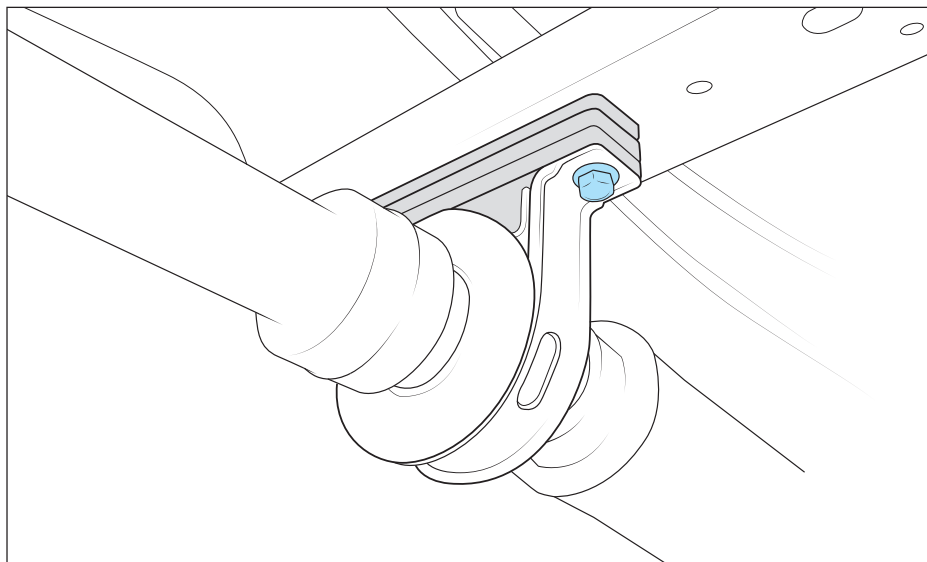

Figure 10
13. Remove driveshaft pillow block from frame. Install two (2) provided spacers with supplied bolts. This will help improve driveline angle and prevent vibration (fig. 10).